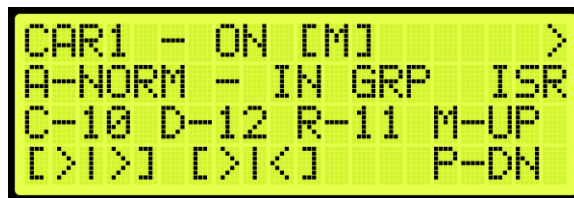

Figure 364: Car Data Overview Status
2. From the Car Data Overview Status (See Figure 364), press the right button.